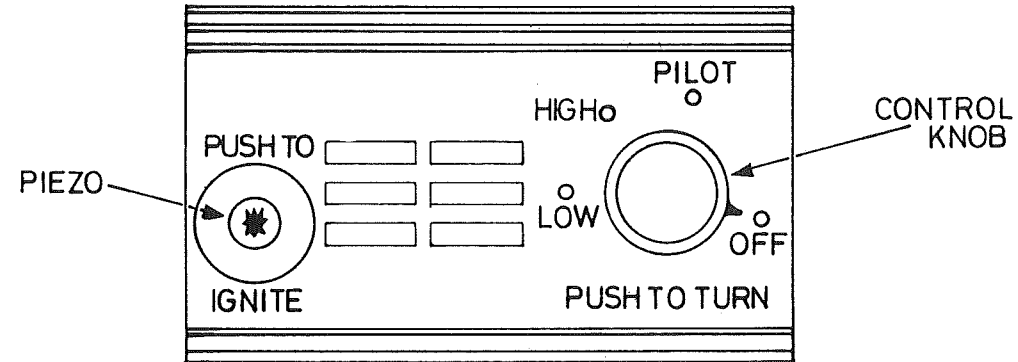

Fig 1
1. This fire is controlled by a 4 position gas tap mounted on the front leg of the appliance (see Fig 1). In addition to the OFF position there is a pilot light and 2 heat control settings.